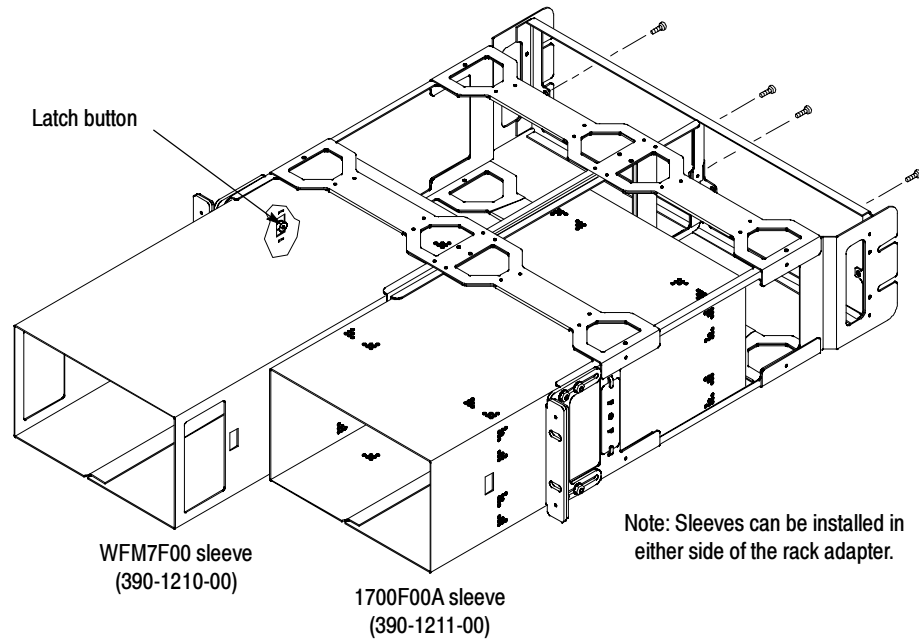

Figure 7: Installing the sleeves into the rack adapter
2. Slide the sleeve into the desired half of the rack adapter, depressing the button on the inside front of the rack adapter as needed to insert the sleeve. See Figure 7.